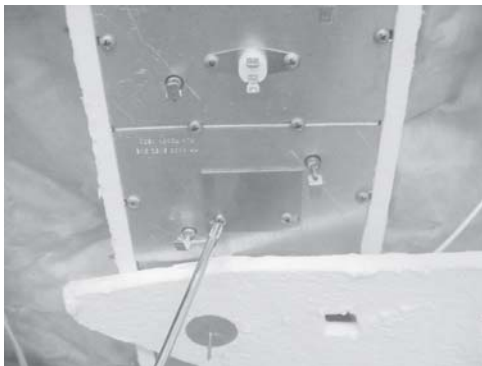

Figure 2-13
5. Using a Phillips head screwdriver, remove the high limit from top heater, or the plate from the bottom heater (Figure 2-13).